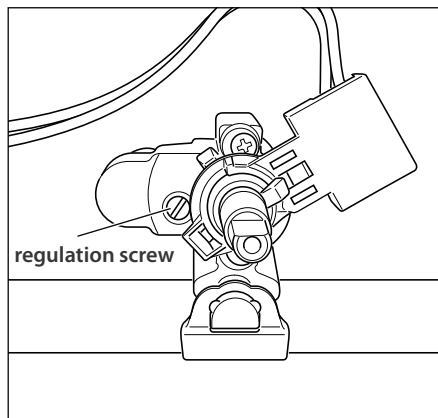

Fig. 9a
- With a thin screwdriver, turn the regulation screw until adjustment is correct (Fig. 9a).